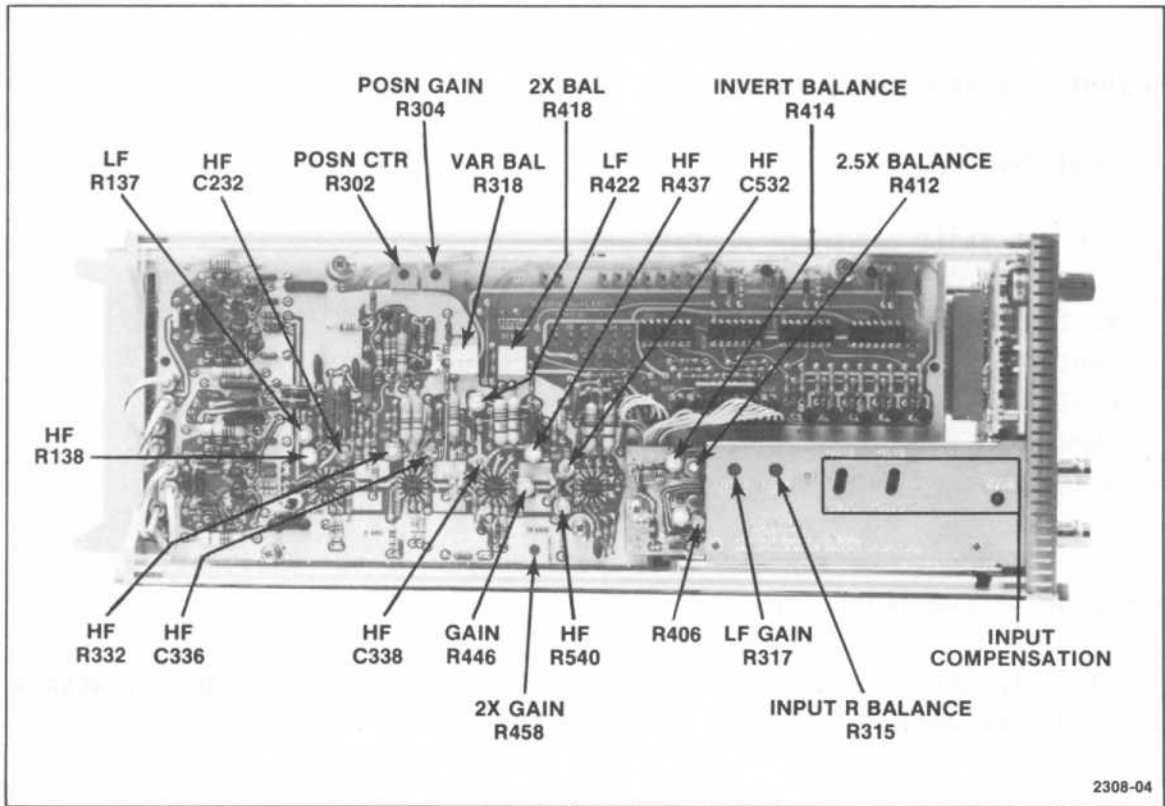

Fig. 6-1b. Test Point and Adjustment Locations Attenuator and Amplifier Board
3. Set R422 (see Fig. 6-1b) fully counterclockwise.